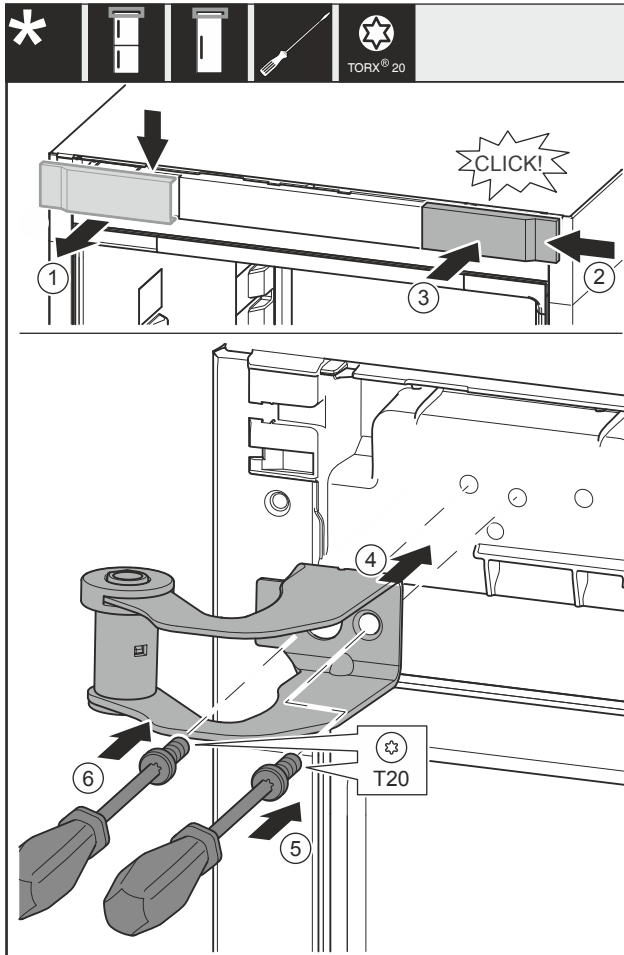

Fig. 13
- ▶ Remove the cover Fig. 13 (1) from above towards the front.
- ▶ Turn the cover Fig. 13 (2) by 180° and attach to the other side from the right.
- ▶ Engage the cover Fig. 13 (3).
- ▶ Place the top swap bearing block Fig. 13 (4).
- ▶ Screw the screw Fig. 13 (5) tight.
- ▶ Screw the screw Fig. 13 (6) tight.